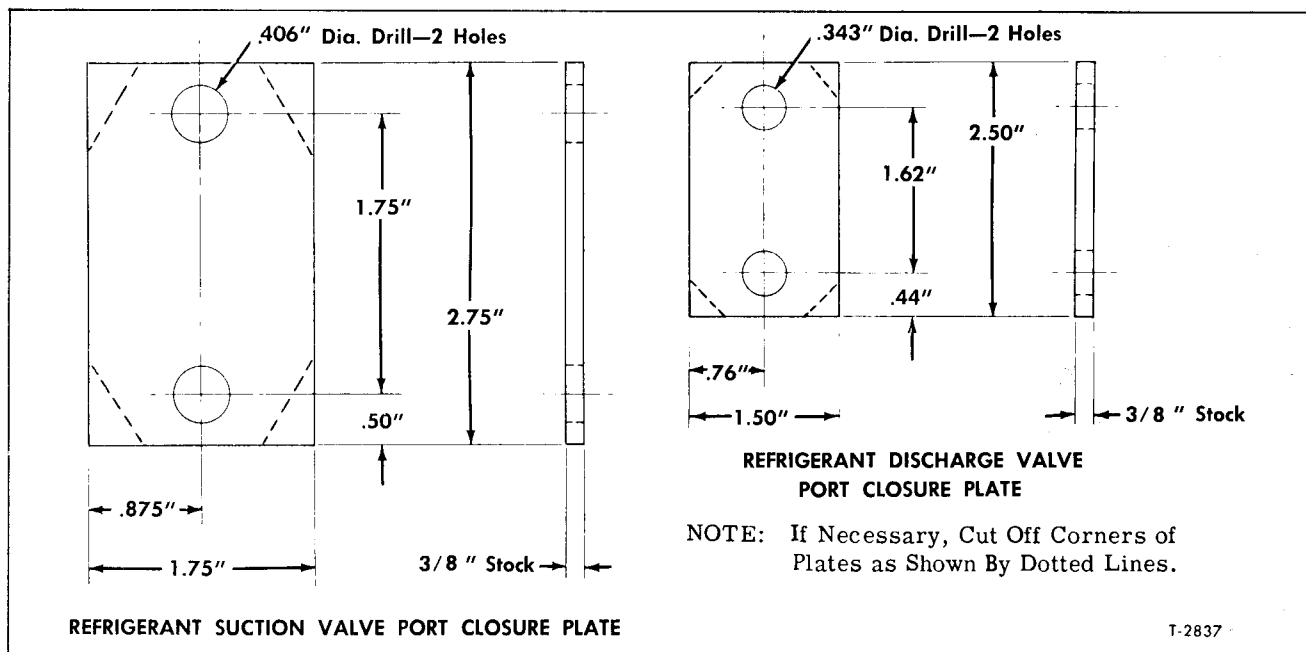

Figure 24—Closure Plates For Sealing Compressor Valve Ports
IMPORTANT: Closure plates shown in figure 24 are used to cover the valve ports and should be made available before beginning to remove compressor.
7. Immediately after removing valves, install closure plates with gaskets over compressor valve openings. Plates shown in figure 24 can be improvised locally.